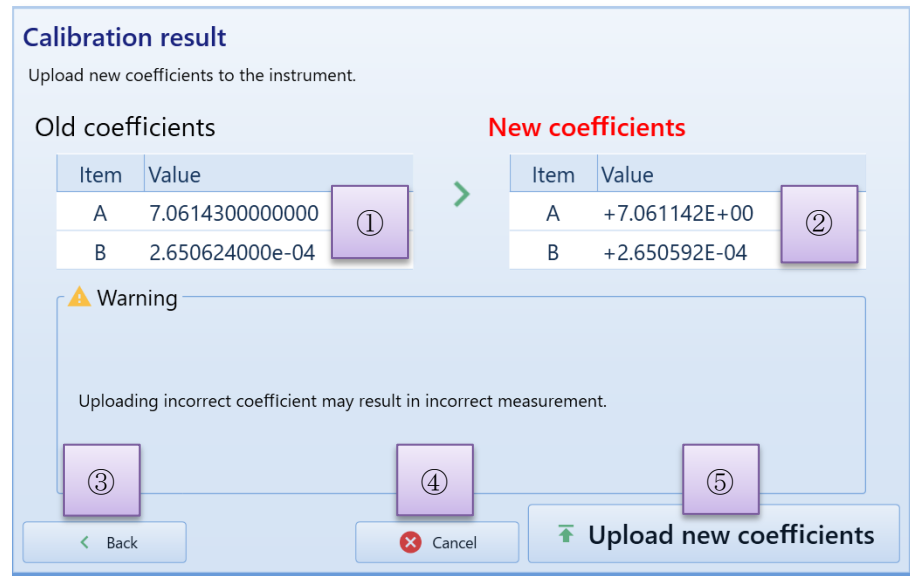

Figure 6.44 Calibration result
- (1) Switch to calibration result screen by clicking on [Next] button in calibration screen of each sensor to calculate new coefficients. (Figure 6.44 / Table 6.9)